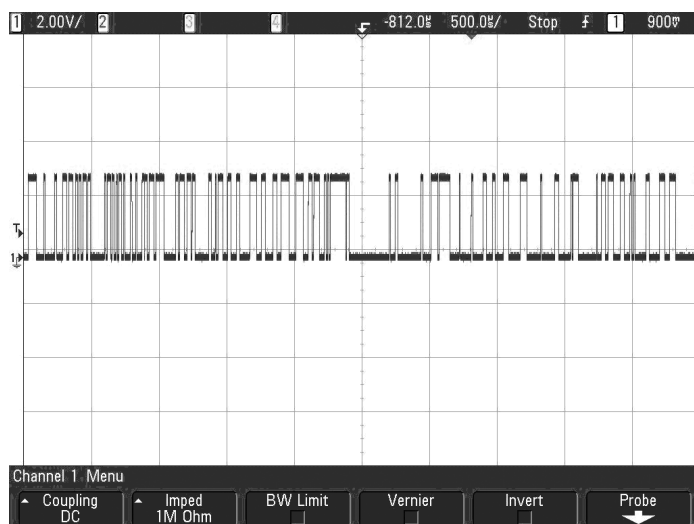
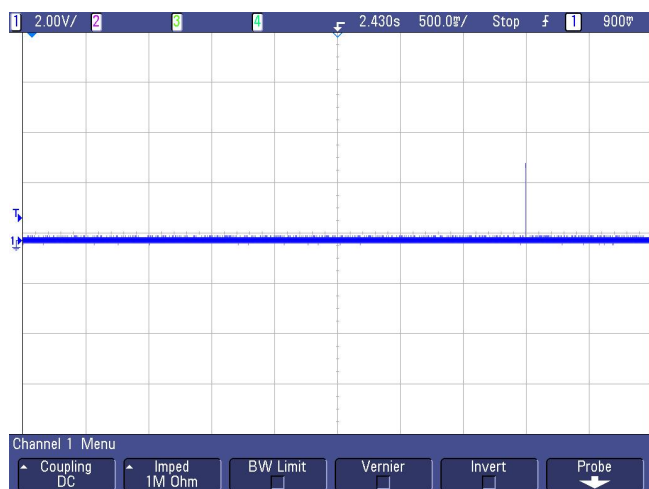

Figure 10. Data Out Pin with No Squelch (SQ = 1)
Figure 11. Data Out Pin with Squelch (SQ = 0)
JP4 (pins 5 and 6) is a jumper used to configure the digital squelch function. When pin 6 (SQ) is held high (jumpered-to-VDD), there is no squelch applied to the digital circuits and pin 10 (DO, data out) has a hash signal. When pin 6 (SQ) is low, the DO pin activity is considerably reduced. It will have more or less activity than is shown in Figure 11 depending upon the outside band noise. The penalty for using squelch is a delay in getting a good signal at the DO pin, that is, it takes longer for the data to show. The delay is dependent upon many factors such as RF signal intensity, data profile, data rate, CTH and CAGC capacitor values and outside band noise. See Figures 10 and Figure 11.